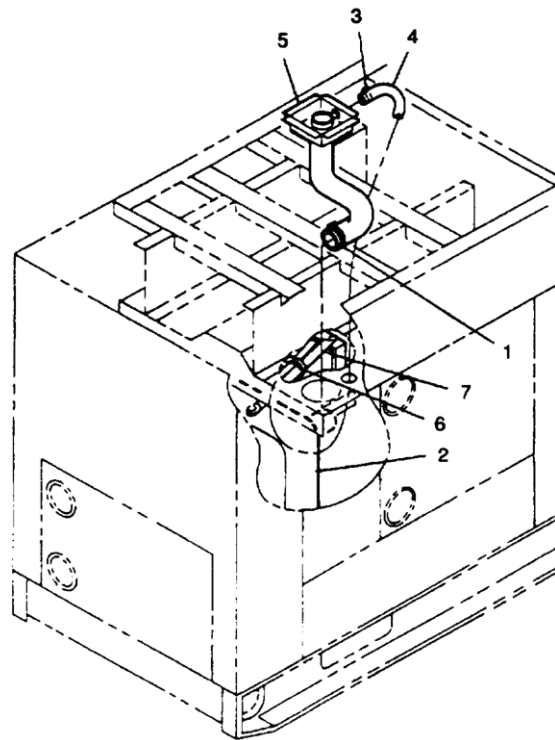

Figure 2. Filler Hose and Panel Assembly.
6. Loosen clamp (Figure 2, Item 1) at radiator (2).
7. Loosen clamp (3) and disconnect overflow hose (4) from filler hose and panel assembly (5).